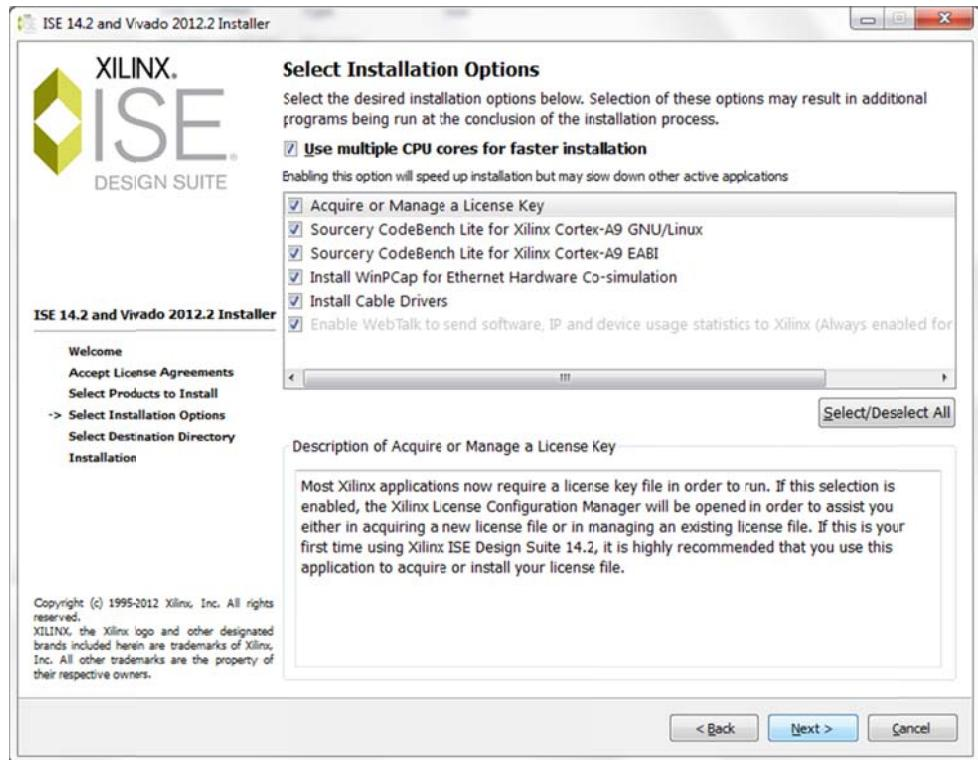

Figure 2A
2. Select the tools to be installed as shown in Figure 2A and the destination location as in Figure 3A.